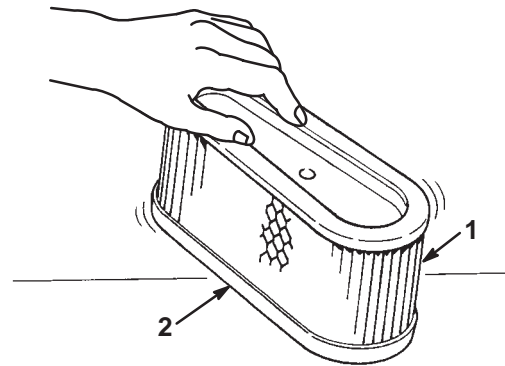

Figure 22
1. Lightly tap the element on a flat surface to remove dust and dirt (Fig. 22).